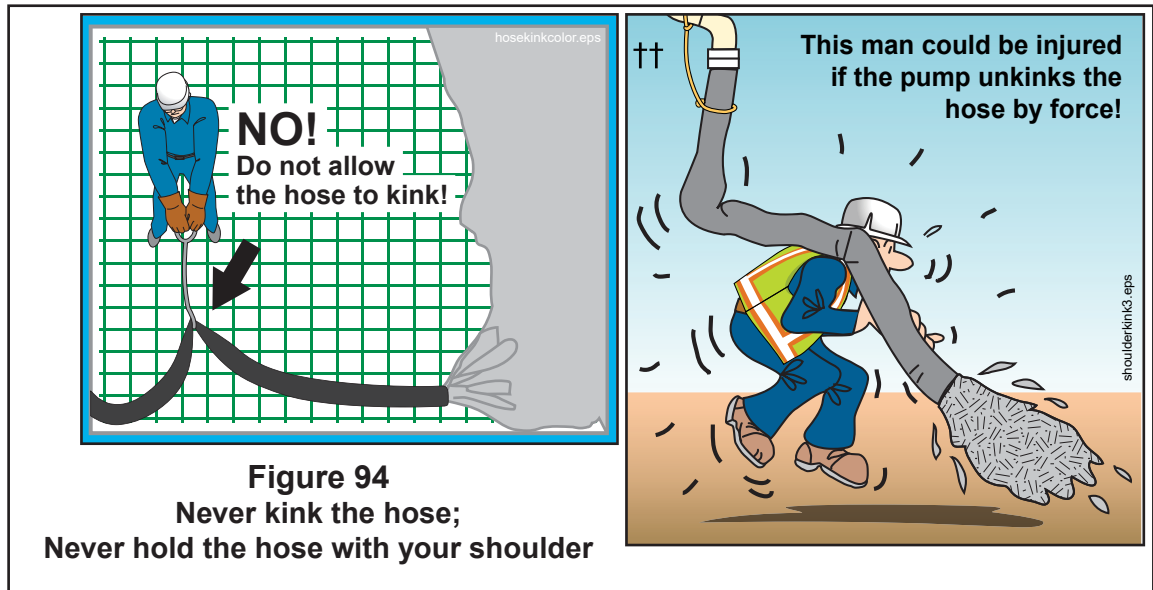

Figure 94
- 17.16** **⚠ WARNING** Do not kink the end hose. Kinking will cause the pump to create maximum concrete pressure. The pump may unkink the hose by force! (See Figure 94.)
- 17.17** **⚠ WARNING** Never try to support the tip hose with your back or shoulders. Let the hose hang from the boom (Figure 94).